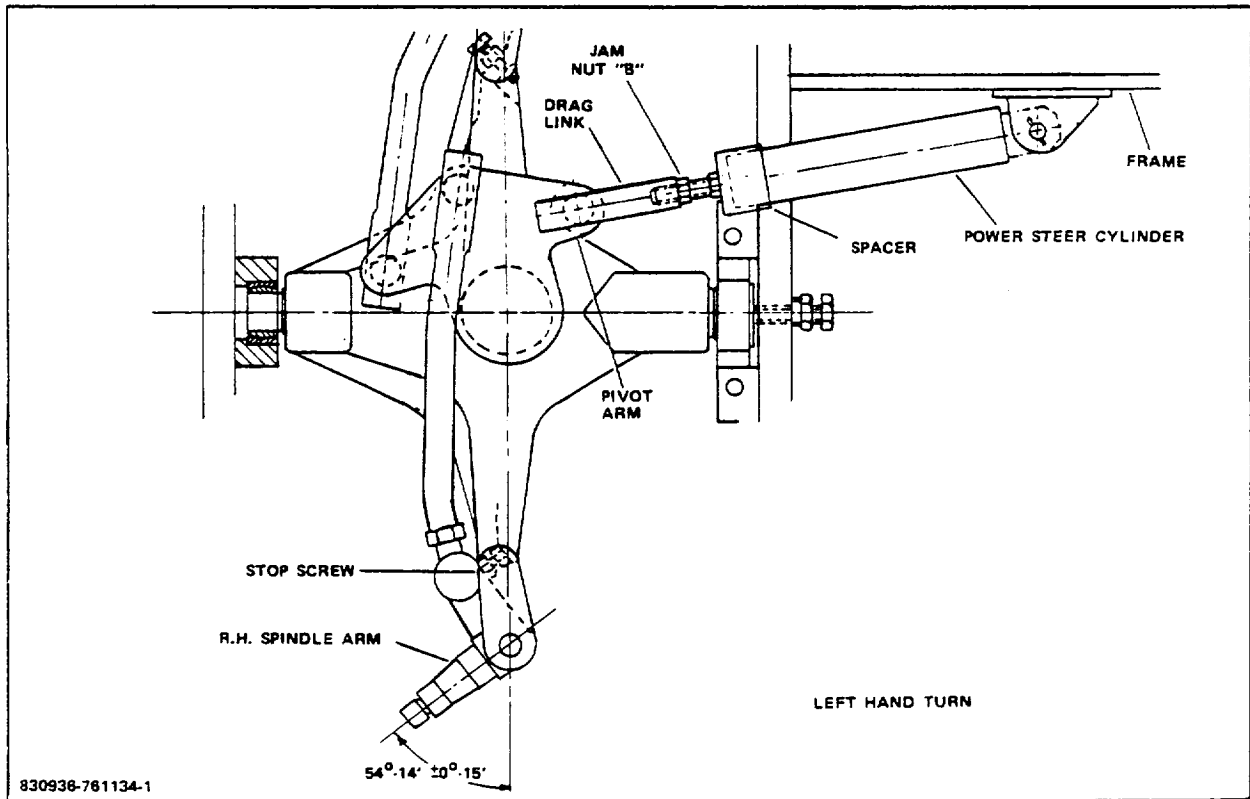

Figure 3-2. Drag Link Adjustment Left Turn
- (1) Turn the wheels to the left until the spindle arm contacts the stop screw on the axle housing (Fig 3-2).
- (2) Adjust spacer until it seats over the cylinder tube.
- (3) Tighten jam nut "B" against the spacer and torque to 150-170 lb-ft.